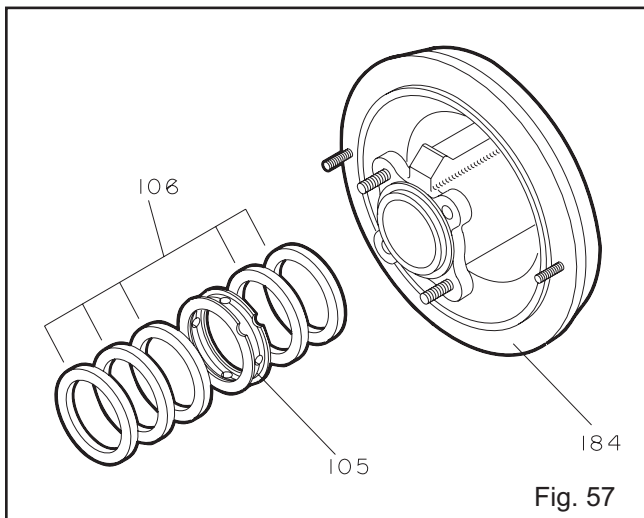

Fig. 57
5. Remove packing (106) and lantern ring (105) from stuffing box cover (184) (Fig. 57). No lantern ring is provided with self-lubricating graphite packing.